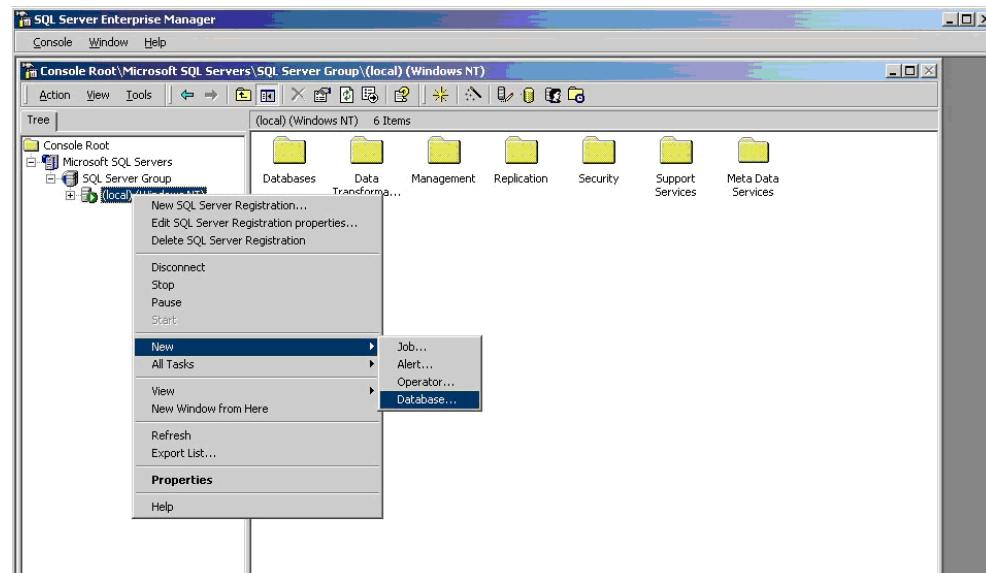

Figure 26: Creating a new database
3. Create a new database by right-clicking the server and selecting **New/Database**, see Figure 26.